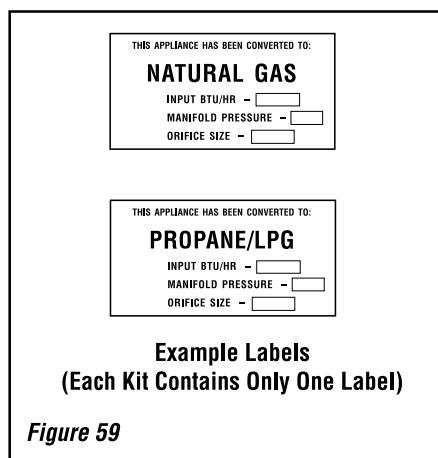

Figure 59
Step 9. Attach the conversion kit label (**Figure 59**) to the rating plate on the appliance.